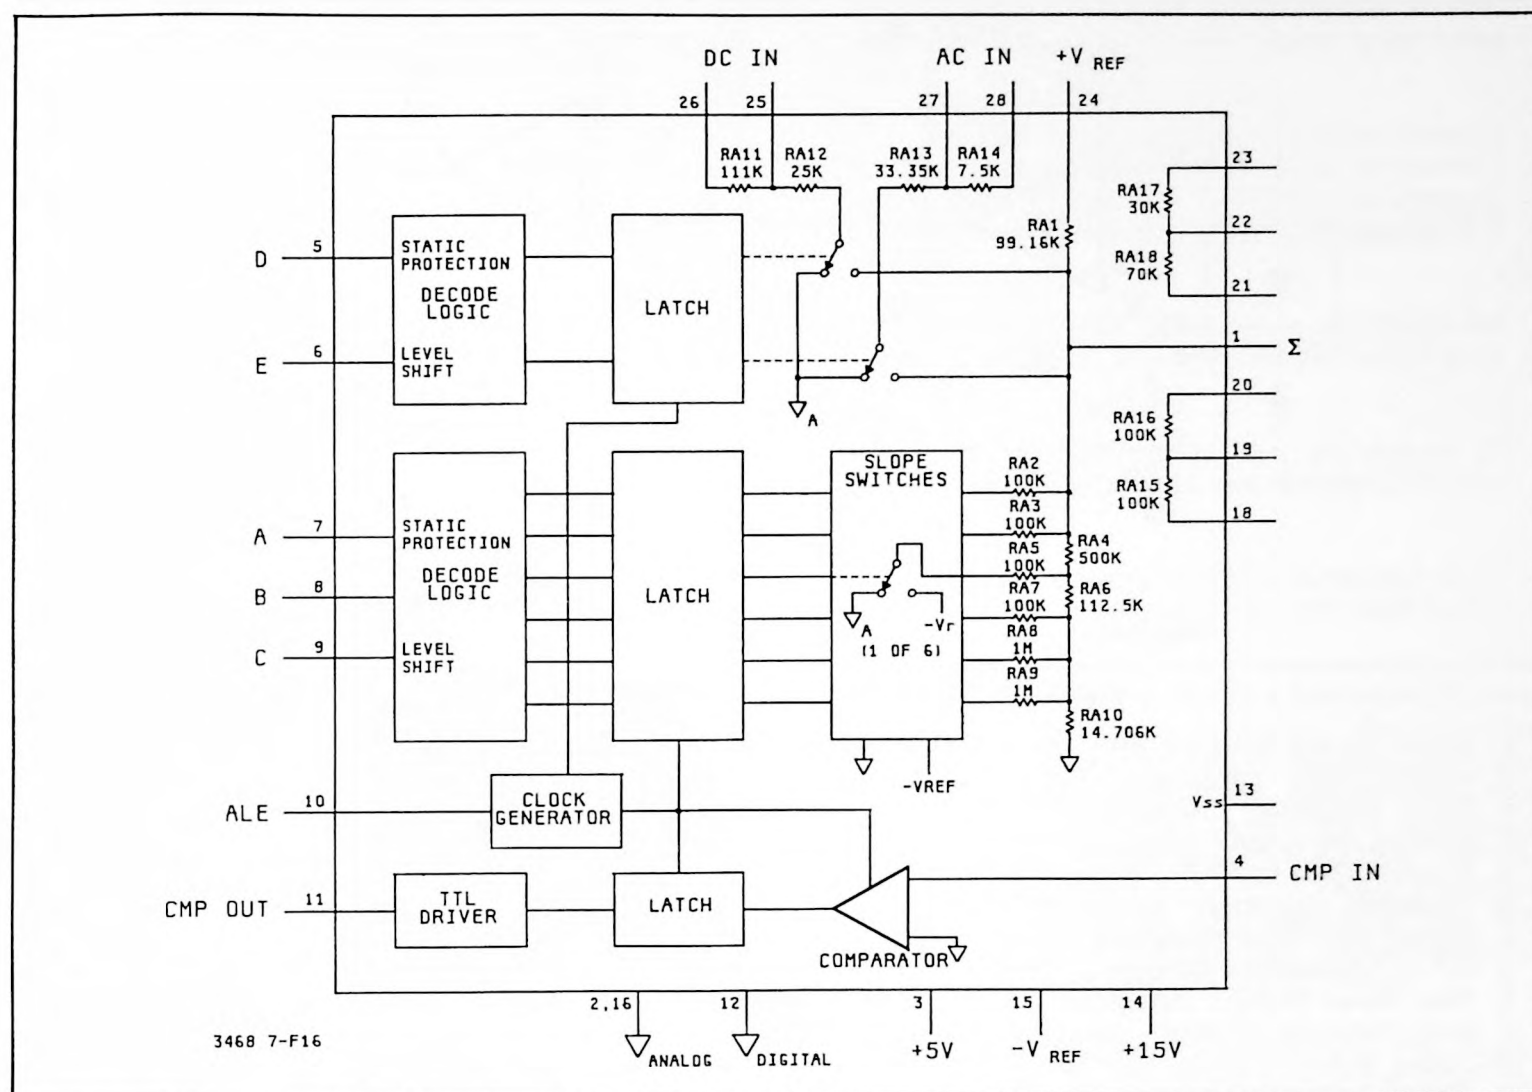

Figure 7-F-16. A/D Hybrid (U403)
d. **Voltage Reference.** The Voltage Reference provides three stable reference voltages: -10V, +10V, and a buffered -10V. The circuitry, shown in Figure 7-F-17, is explained as follows: